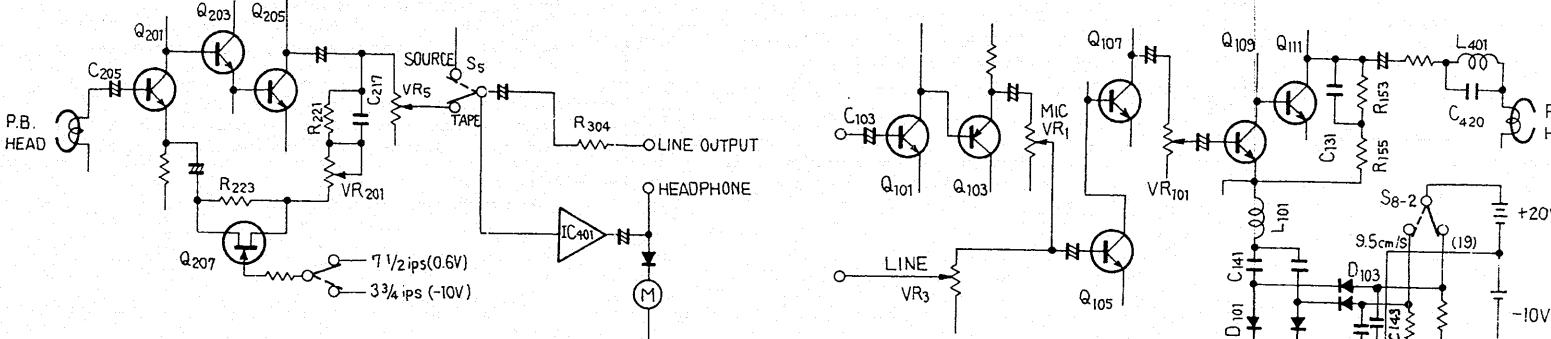

Fig. 1
The RT-1011L tape deck contains 2-channel recording and playback. It employs two playback circuits, two recording circuits and one oscillator circuit. The left-channel major circuitry is shown in Fig. 1.
3.1 PLAYBACK CIRCUIT (Fig. 1)